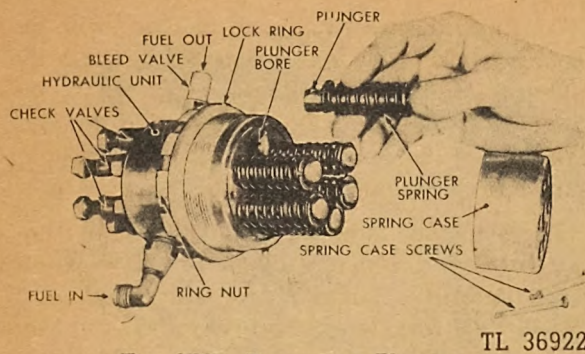

Fig. 270. Removing Plunger TL 36922
(4) Access to the rotor, plungers and plunger springs is obtained by removing the spring case which is assembled on the unit with two round-head screws. (See Figures 270 and 271.) The plungers in the hydraulic unit are NOT INTERCHANGEABLE. They are numbered in a clockwise direction, starting with the plungers at the locating pin. Neither the plungers, rotary valve or bores should be touched with emery, crocus cloth or any abrasive or polishing compound. They may, however, be washed in clean fuel oil. The polished or highly finished parts should not be clicked, scraped or rattled together and should not be laid on anything but a clean paper or clean cloth.